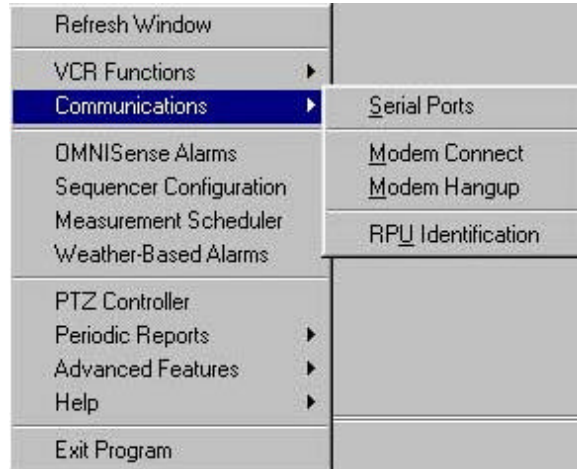
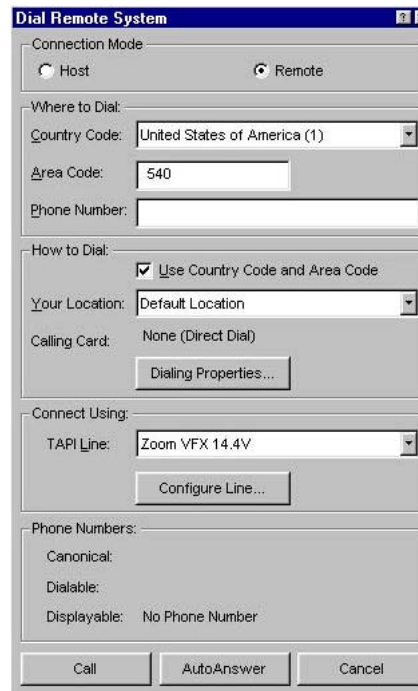

Figure 3.14 Communications Features
Figure 3.18 Communications/Modem
Selecting “Communications” on the floating menu (Ref to Fig 3.14) configures all WeatherScene™ communications.
1. From the WeatherScene™ Main Screen on the Host CDU, position the mouse in the video frame area and click the right button to bring up the floating menu. Highlight “Communications” and click on “Modem Connect” (Ref to Fig 3.14 and Fig 3.18).
1. Using the WeatherScene™ software installed on the Remote CDU, position the mouse on the Main Screen in the video display area and click the right button to bring up the floating menu. Highlight “Communications” and click on “Modem Connect” (Ref to Fig 3.14 and Fig 3.18).
1. Using the WeatherScene™ software installed on the Remote CDU, position the mouse on the Main Screen in the video display area and click the right button to bring up the floating menu. Highlight “Communications” and click on “Modem Connect” (Ref to Fig 3.14 and Fig 3.18) or Right click the RPU ID Box and highlight “Connect via Modem” in the dialog box.
1. Using the WeatherScene™ software installed on the Remote CDU, position the mouse on the Main Screen in the video display area and click the right button to bring up the floating menu. Highlight “Communications” and click on “Modem Hang-up” (Ref to Fig 3.14), or right click the RPU ID Box and highlight “Hang-up” in the dialog box.